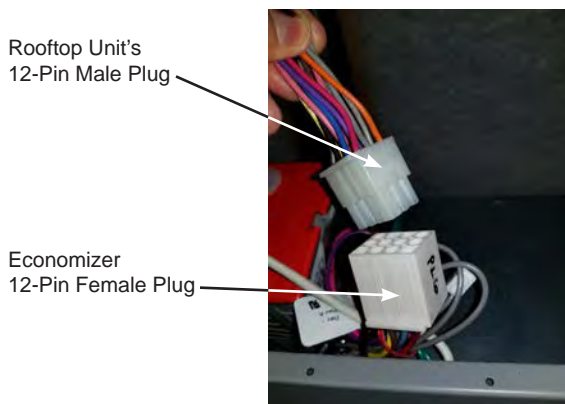

Figure 5 – Connect Economizer Harness to Unit PL6 Economizer Harness
Step 8: Remove and save the 12-pin jumper plug from the unit economizer harness – located in the upper left corner of the unit. Insert the economizer plug into the unit wiring harness. See Figure 5. *Note: the 12-pin jumper plug should be saved for future use, in the event that the economizer is ever removed. The jumper plug is not needed as long as the economizer is installed.*